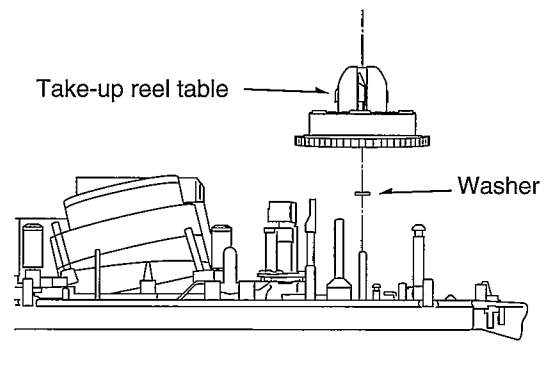

Fig. C13
- ※ When remove Take-up reel table, be sure whether a washer attaches on Take-up reel table shaft (Fig. C13).